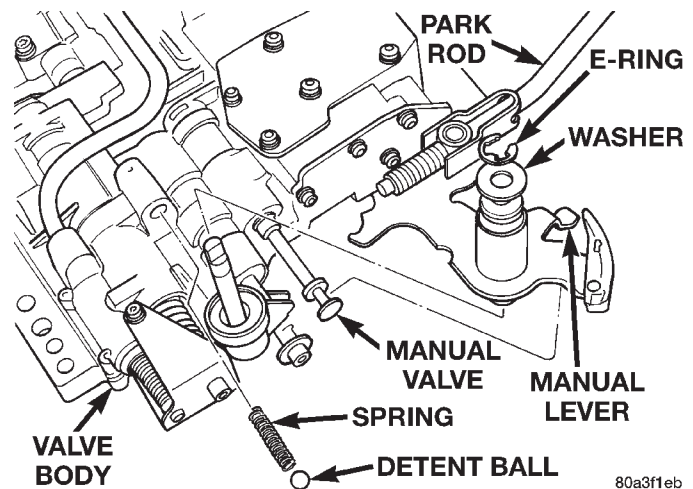

Fig. 42 Manual And Throttle Levers
(5) Remove manual shaft E-clip, washer, and seal (Fig. 42).
(6) Pull manual shaft and park rod assembly upward out of valve body and off throttle lever (Fig. 42).
(8) Remove Retainer Tool 6583. Then remove and retain detent ball and spring (Fig. 42).
(9) Remove throttle lever (Fig. 42).